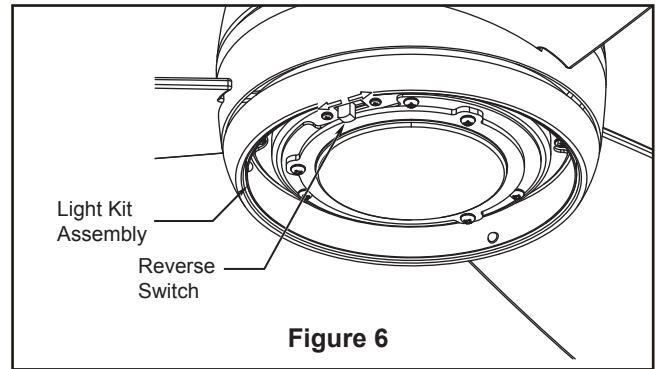

Figure 6
- 5.** Attach the safety cable to ceiling support cable. Slide cable clamp onto safety cable (from fan). Place the end of cable through the loop of ceiling support cable. Pull as much cable through loop as possible. Feed end of cable into clamp hole and firmly tighten screw (Figure 6). Cut off excess safety cable.
6. Remove the three screws in the upper LED plate assembly and retain the screws for later. (Figure 6)
- ### 6. If airflow is desired in the opposite direction, turn the fan off and wait for the blades to stop turning. Remove glass or plastic cap from light kit, then slide the reverse switch inside the light kit assembly to the opposite position reinstall glass or plastic cap. Turn fan on again. (Figure 6)